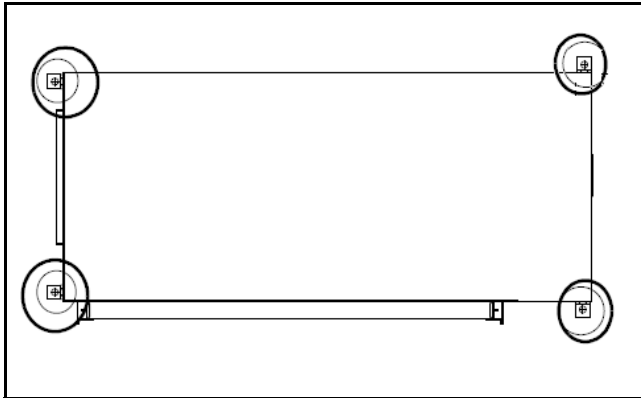
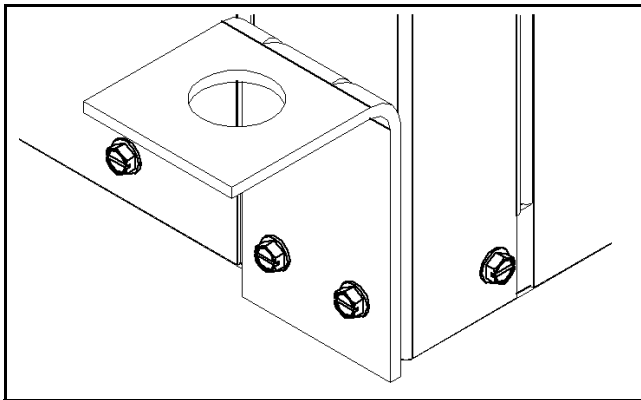

Fig. 6 Four Bracket Mounting Locations
Fig. 7 Mounting Brackets to the Corner Posts
- Mount the four Brackets to unit's four corner posts using the screws provided in the kit. Refer to Fig. 6 and Fig. 7.